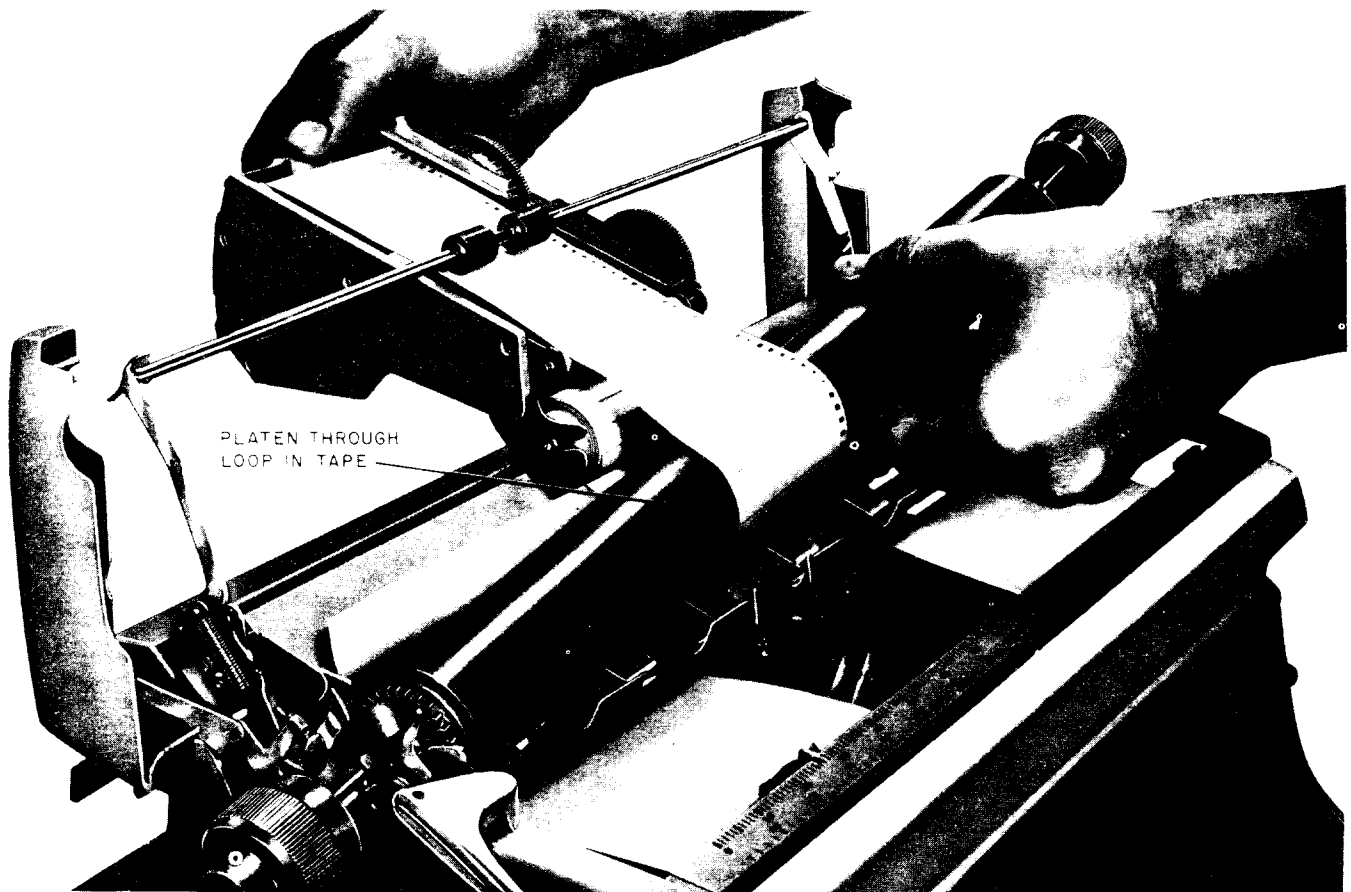
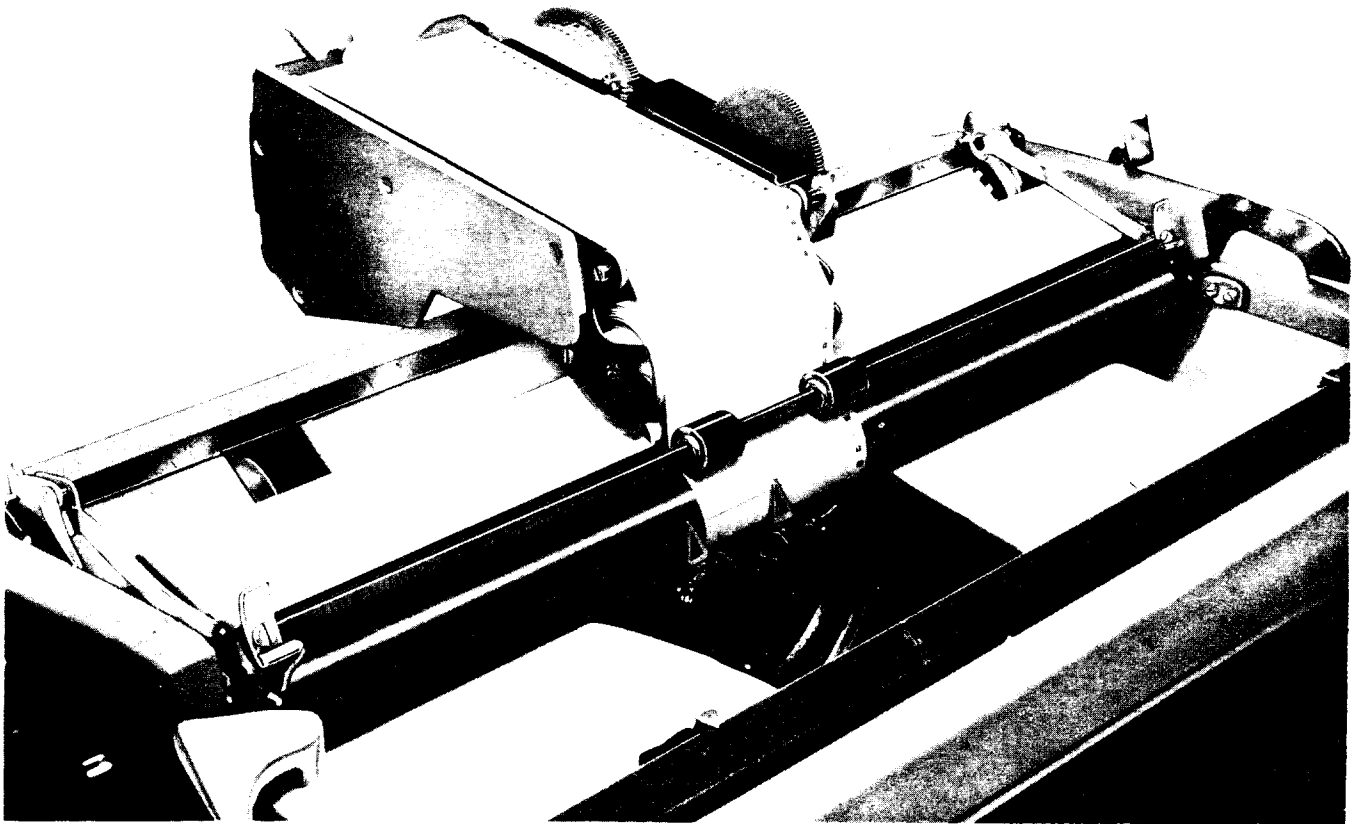

Fig. 10—Placing Directory Tape in Typewriter
Fig. 11 — Directory Tape In Typewriter
- (5) Remove platen (roller) from typewriter (Fig. 10).
- (6) Pull a loop in the directory tape and feed the platen (roller) through the loop. Be sure tape is under paper rollers.
- (7) Lock platen (roller) in place.
- (8) Position mechanism on carriage as shown in Fig. 11.
- (9) Using a list of names arranged in alphabetical order, type the first name on the list in the proper place on the directory. The platen (roller) may be rotated to roll the directory tape downward toward the "Z" index designation. Type each name in the upper half of a space and the corresponding telephone number in the lower half.
- (10) Continue typing names and numbers until the last name on the list has been entered. Errors or previously written names may be erased, but care must be taken not to damage the tape.
- (11) Remove the directory mechanism from the typewriter by removing the platen (roller).
- (12) Replace the directory mechanism in the CALL-A-MATIC telephone set as follows:
- (a) Place the cylindrical numbers as shown in Fig. 11 in the two upright saddles.